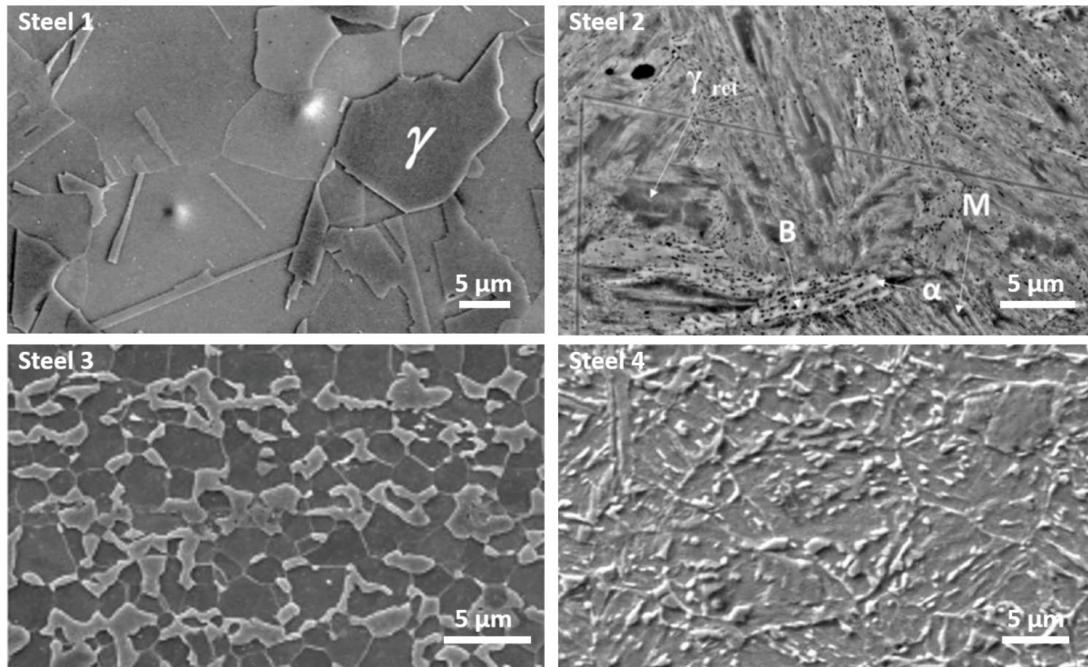

Figure 1. SEM images of steels 1-4;
a) In Table 1, the chemical compositions of several steels are listed in wt.%. Their SEM images are respectively shown in Figure 1.
- Associate the steel numbers in Table 1/Figure 1 to the following types of steels and justify your answer briefly: DP, CP, TRIP, and TWIP steels. (2P)